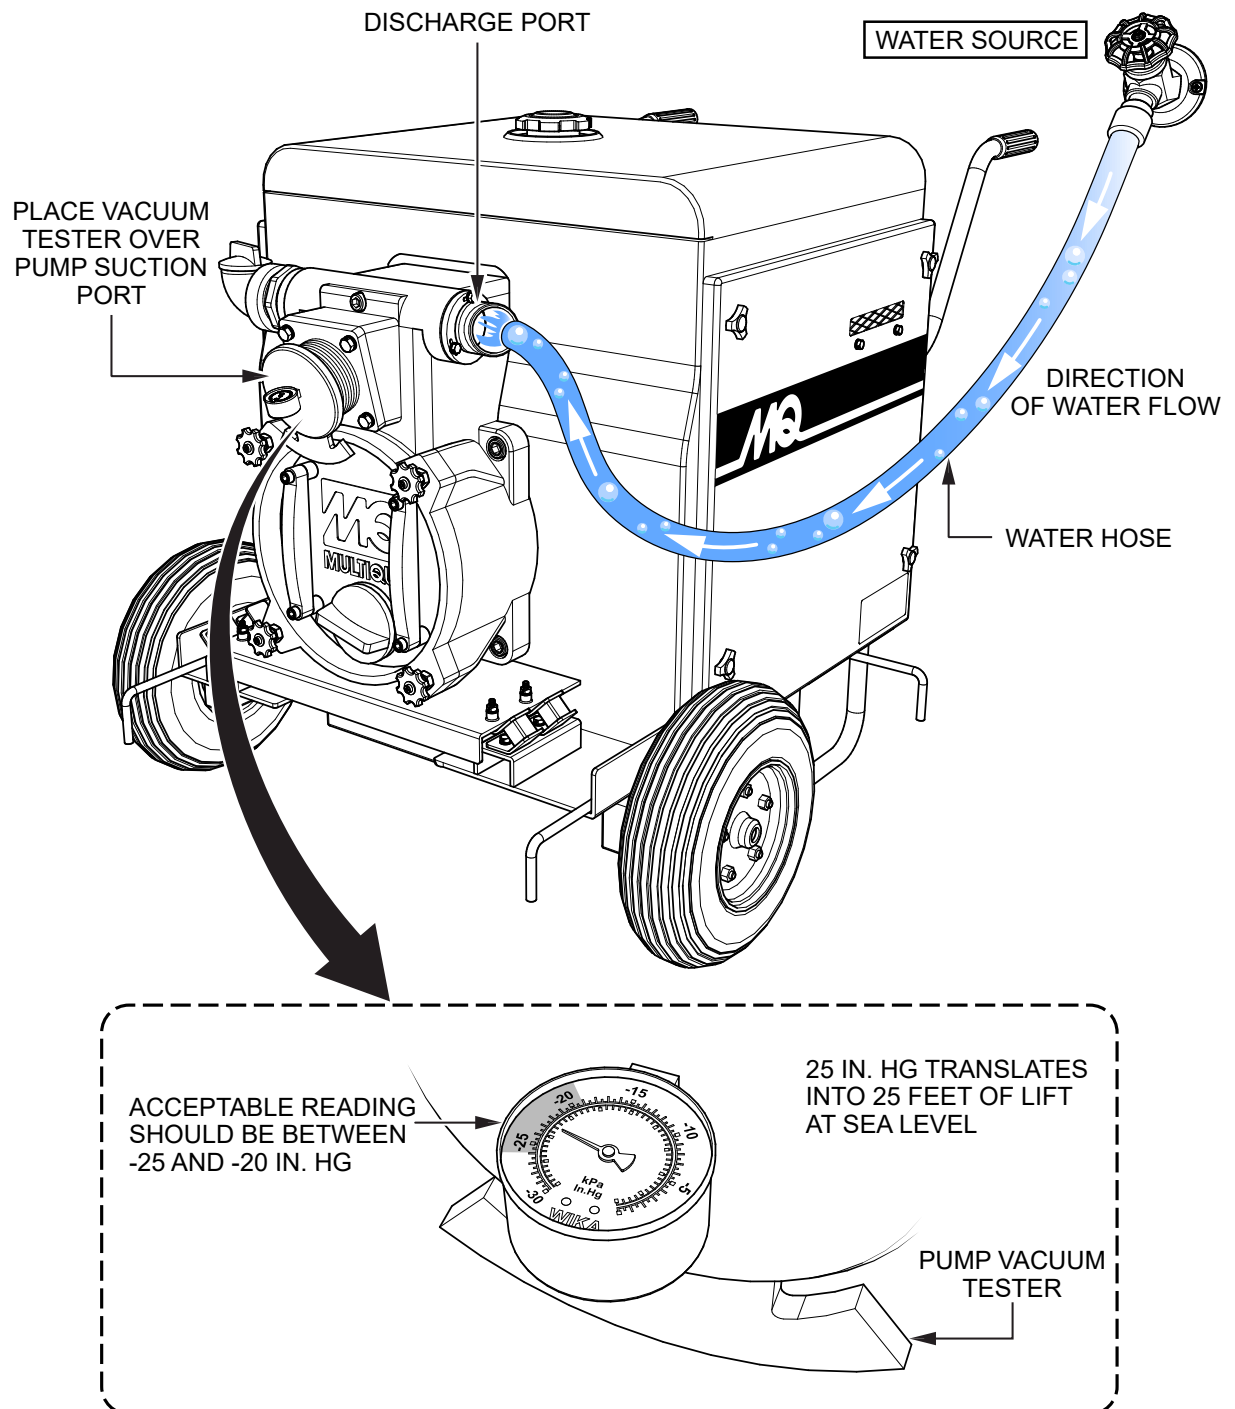

Figure 12. Pump Vacuum Tester
3. As shown in Figure 12, place a water hose inside the discharge opening of the pump, and turn on the water. This flow of water into the discharge opening will **prevent** the pump from running dry.
4. Place the Pump Vacuum Tester (P/N 7000030) over the pump suction (inlet) opening (See Figure 12) with the vacuum gauge facing upwards. It may be necessary to apply a small amount of water around the rubber seal of the vacuum tester to make a good suction fit.